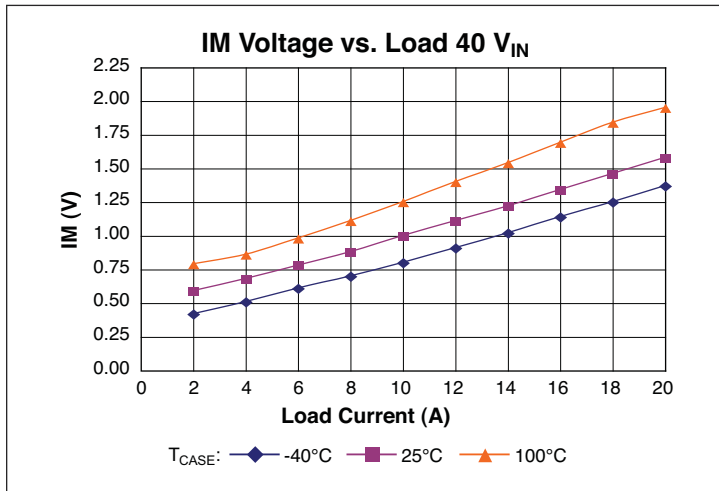

Figure 7 – IM voltage vs. load; 40  $V_{IN}$
The Current Monitor (IM) pin provides a voltage proportional to the output current of the VTM. The voltage will vary between 0.3 V and 2.1 V over the output current range of the VTM (See Figure 7). The accuracy of the IM pin will be within 25% under all line and temperature conditions between 50% and 100% load. The accuracy of the pin can be improved using a predictive algorithm based on the input voltage and internal temperature. Please contact Applications Engineering for more information.